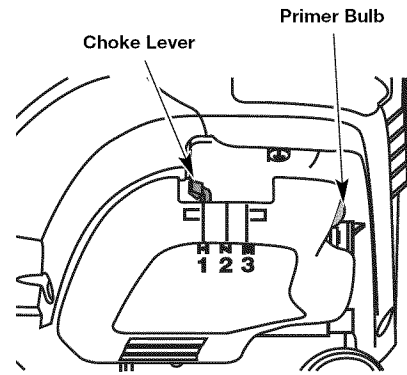

Fig. 6
3. Fully press and release the primer bulb **10** times, slowly. Some amount of fuel should be visible in the primer bulb (Fig. 6). If fuel cannot be seen in the bulb, press and release the bulb until fuel is visible.
4. Move the choke lever to **Position 1** (Fig. 6).
6. **Continue to squeeze the throttle control.** Move the choke lever to **Position 2** (Fig. 6).
9. **Continue to squeeze the throttle control.** Move the choke lever to **Position 3** (Fig. 6).